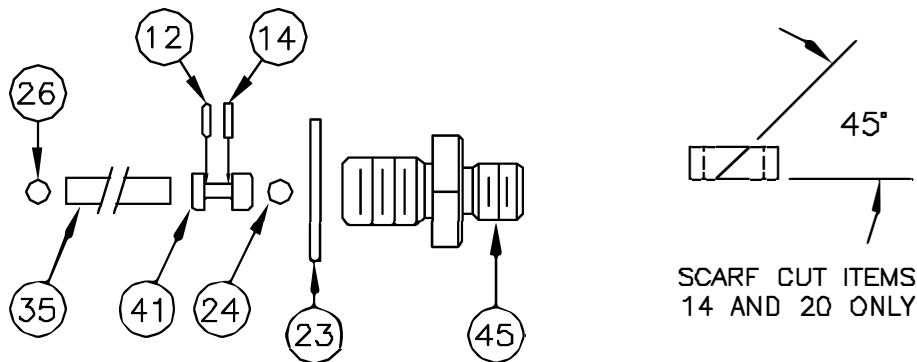

FIGURE 19
2. Place a 3/32" pin punch through the outside hole of the gauge adaptor and push out piston 41 and ball 24 (see Figure 19).
1. Lubricate O-ring 12, backup washer 14 and gauge piston 41. Install O-ring 12 and backup washer 14 as shown in Figure 19. NOTE: Backup washer may be scarf cut as shown to expedite installation.
2. Place gauge adaptor 46 on a clean surface with the large bore facing up. Place ball 24 in the cavity and gauge piston 41 with O-ring and backup washer installed. See Figure 19 for correct order of installation.